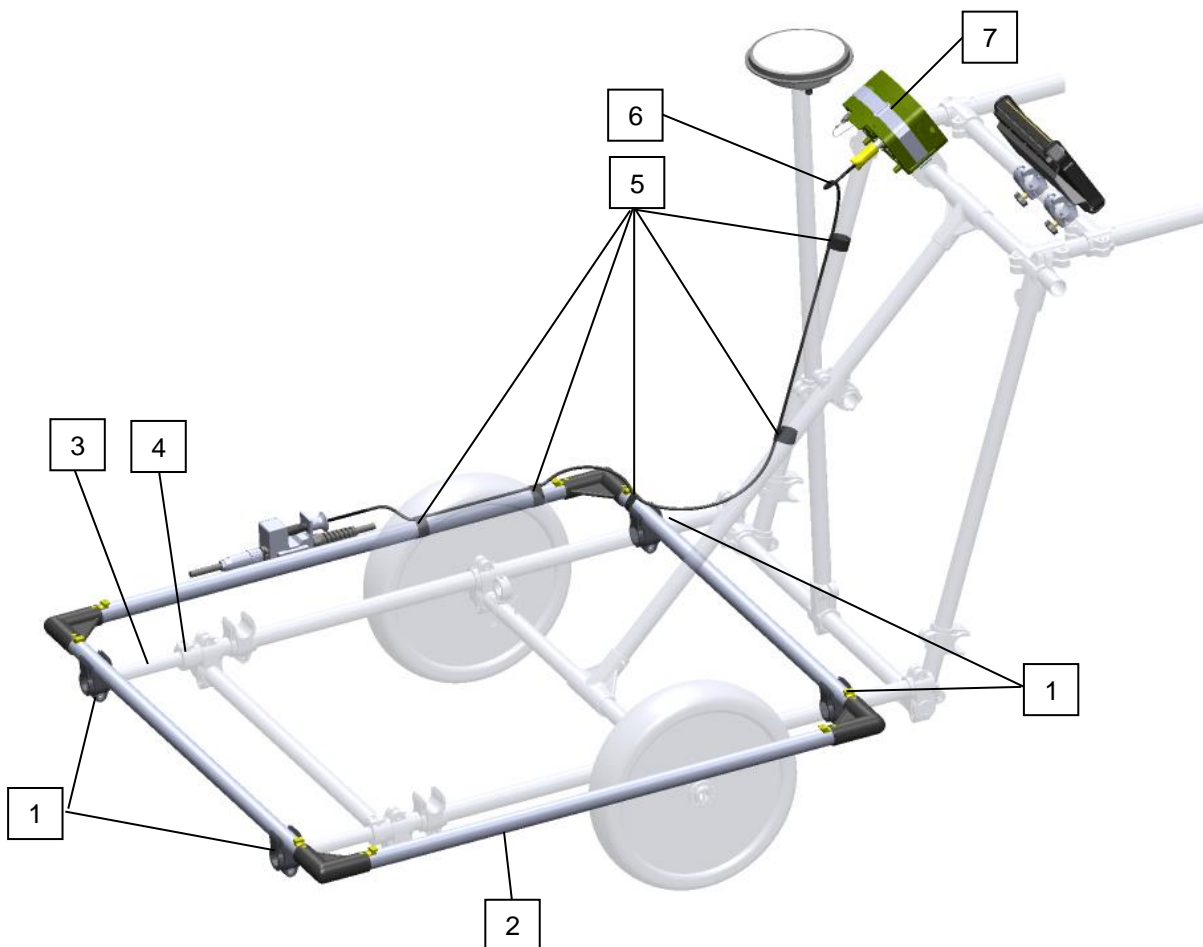

Fig. 5.2.1-1: Wheeled carrier with search coil 1 x 1 m
- Open the levers of the two clamps (pos. 4) and pull out the two extensions (pos. 3) to the required length.
- As shown in fig. 5.2.1-1 to 5.2.1-4, clip the search coil (pos. 2) into the corresponding retaining clips (pos. 1).
- Close the levers of the clamps (pos. 4).
- Place the control unit (pos. 7) on the bracket provided and fasten it with the fastening strap (see also sect. 5.2.2).
- Lay the connection cable (pos. 6) between the search coil and the control unit as shown in the figure and attach it to the wheeled carrier with the velcro straps (pos. 5).
- Insert the plug of the connection cable (pos. 6) into the control unit.